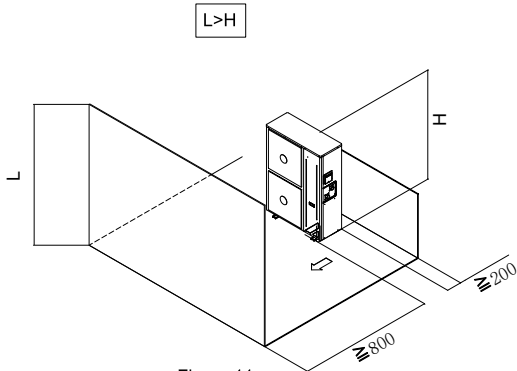

Figure 11
- Single unit installation (see Figure 11)